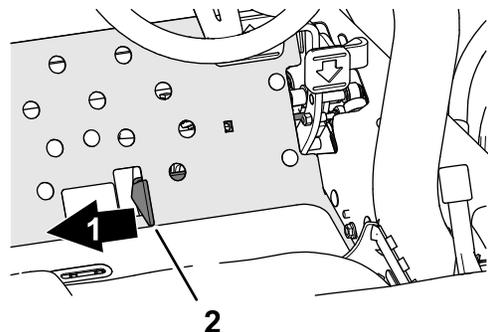

Figure 39
4. Move the mow/transport slide right, to the Mow position (Figure 39).
2. Move the mow/transport slide to the right to the Mow position (Figure 39).